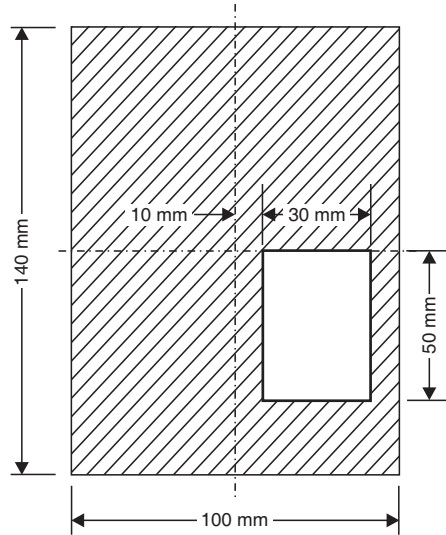

Fig. 4.51
14. Find the centroid of the shaded area shown in Fig. 4.51.